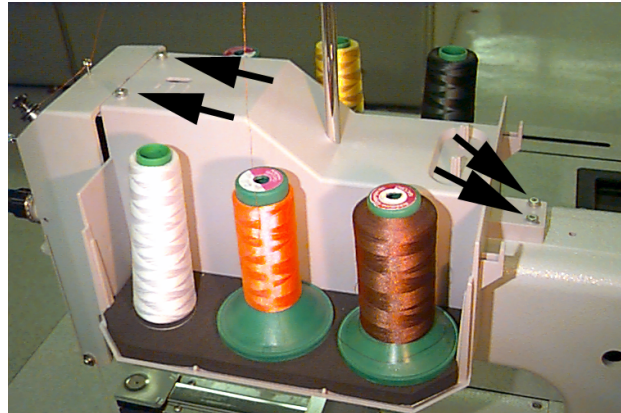
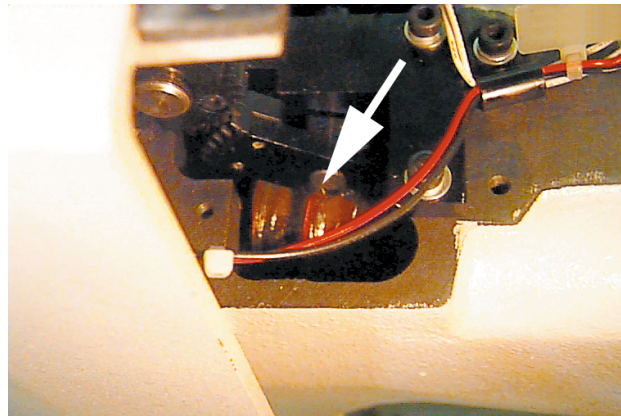

Figure 4-15
Figure 4-16
1. When **take-up lever cam and follower** displays, press . Remove the 4 screws shown in Figure 4-15, and set them aside. Remove the saddle bags. The take-up lever cam and follower is located directly behind the head. Use a cotton swab and a SMALL AMOUNT OF GREASE to lubricate the take-up lever cam and follower (refer to Figure 4-16). Use a flashlight if necessary. Replace the saddle bags and tighten the 4 screws.